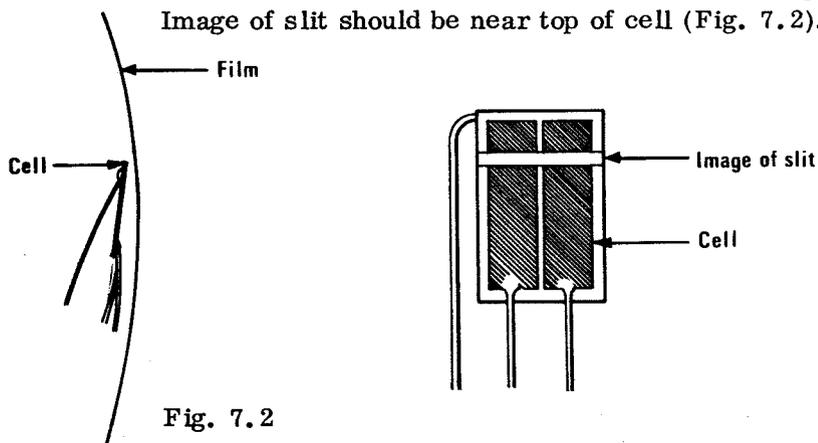

Fig. 7.2
- (b) On projector 1, switch on exciter lamp and move the cell towards the film until it almost touches the film plane. Image of slit should be near top of cell (Fig. 7.2).